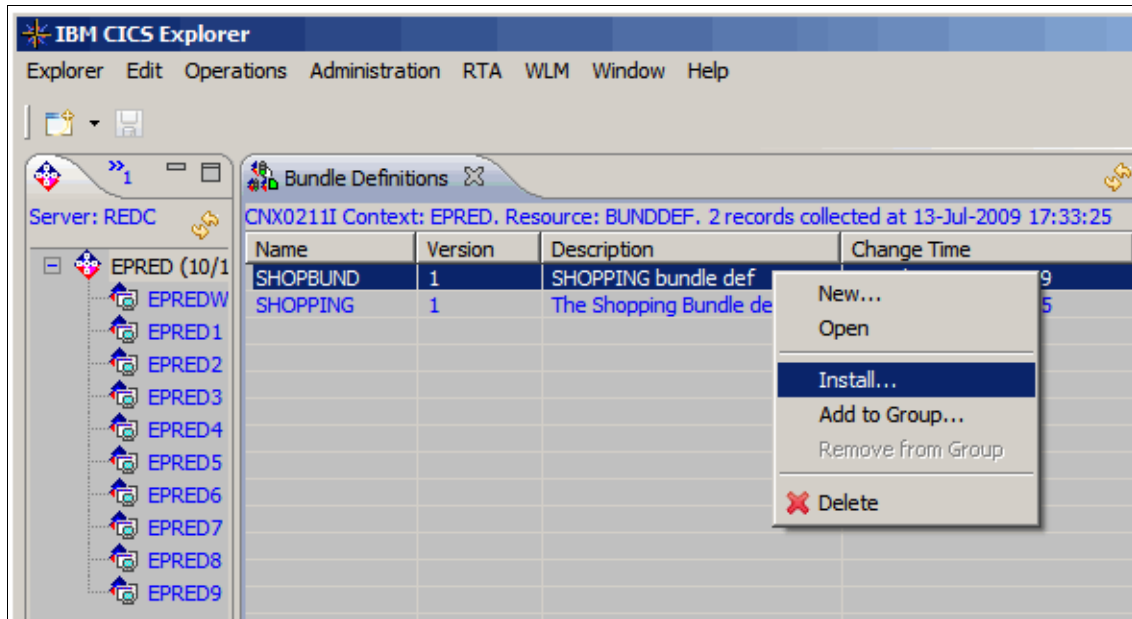

Figure 4-14 Install bundle definitions
2. Right-click the event binding bundle definition name in the Bundle Definitions view and click **Install**, as shown in Figure 4-14 on page 73. On the “Install action” panel, select the appropriate target CICS system or system group check box where you want to install your event binding bundle and click **OK**.